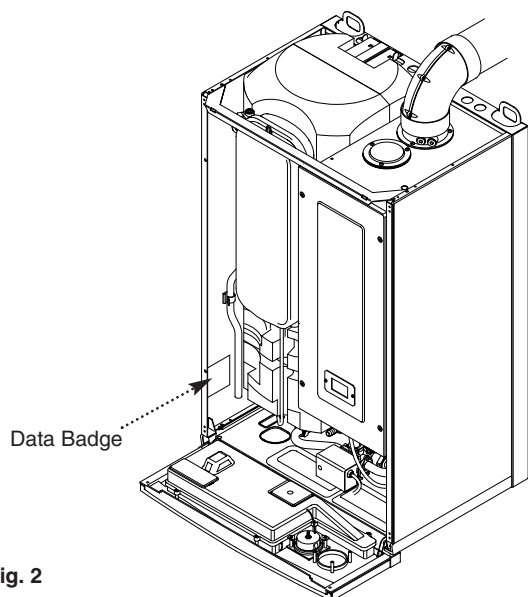

Fig. 2
7. The boiler data badge is positioned inside the left hand outcase panel (Fig. 2).